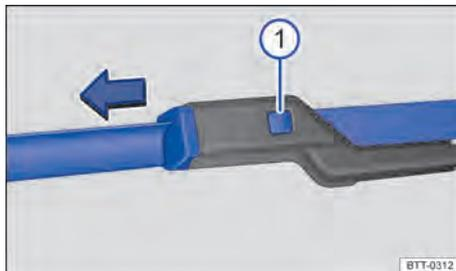

Fig. 174 Replacing windscreen wiper blades.
- Press and hold the release tab → Fig. 174 ① and pull off the windscreen wiper blade in the direction of the arrow.